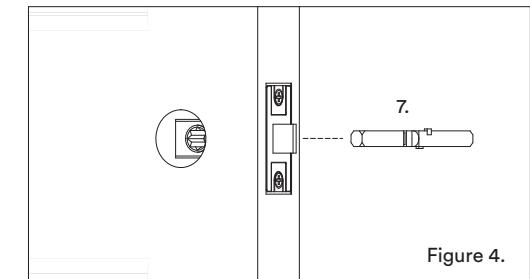

Figure 4.
- 6.1. Place the tube latch privacy spindle (provided with the tube latch) through the latch follower. (Figure 4)